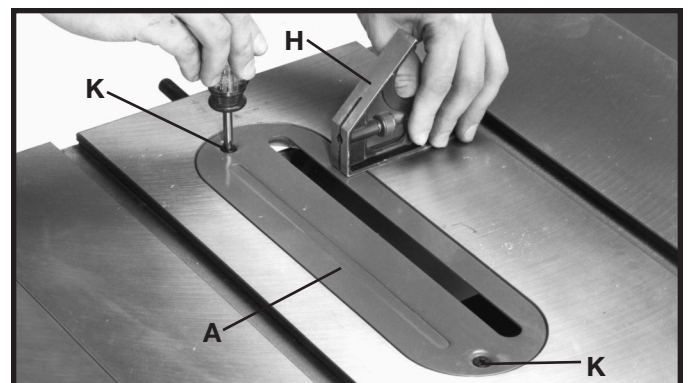

Fig. 13
6. **⚠ WARNING REPLACE TABLE INSERT (A) FIG. 13, MAKING CERTAIN THAT IT IS FLUSH WITH TABLE SURFACE.**
7. Place a straight edge or square (H) Fig. 13, on the saw table extending over the table insert (A) as shown. If an adjustment is necessary, tighten or loosen the two adjustment screws (K).